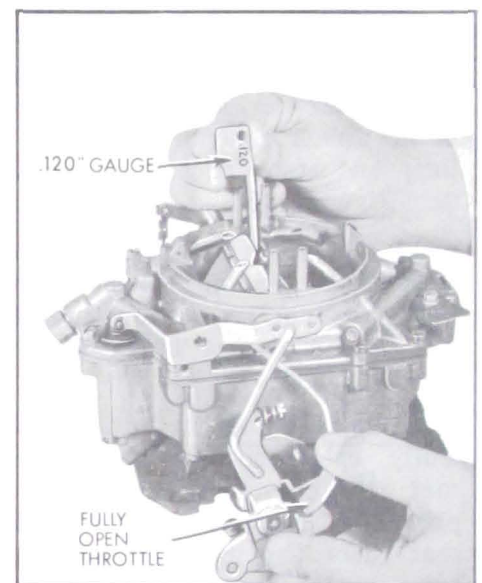

Figure 3-54—Checking Choke Unloader Adjustment
3. Choke Unloader Adjustment. Fully open throttle so that throttle arm contacts unloader tang on fast idle cam, then check clearance between choke valve and air horn dividing wall using .120" gauge. See Figure 3-54.